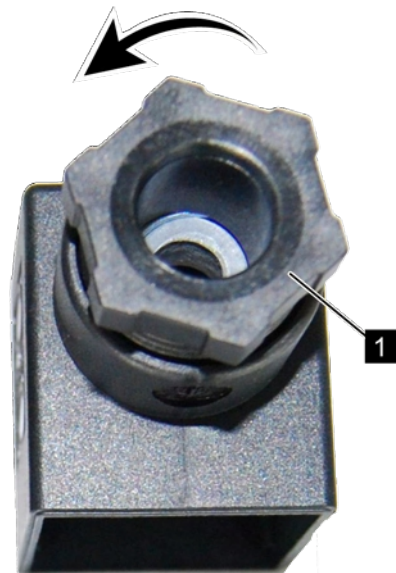

Fig. 23: Loosen the screw connection
4. ➤ Unscrew the screw connection (Fig. 23/1) by turning in the direction of the arrow
8. ➤ Retighten the screw connection (Fig. 23/1) by turning it to the right until tight